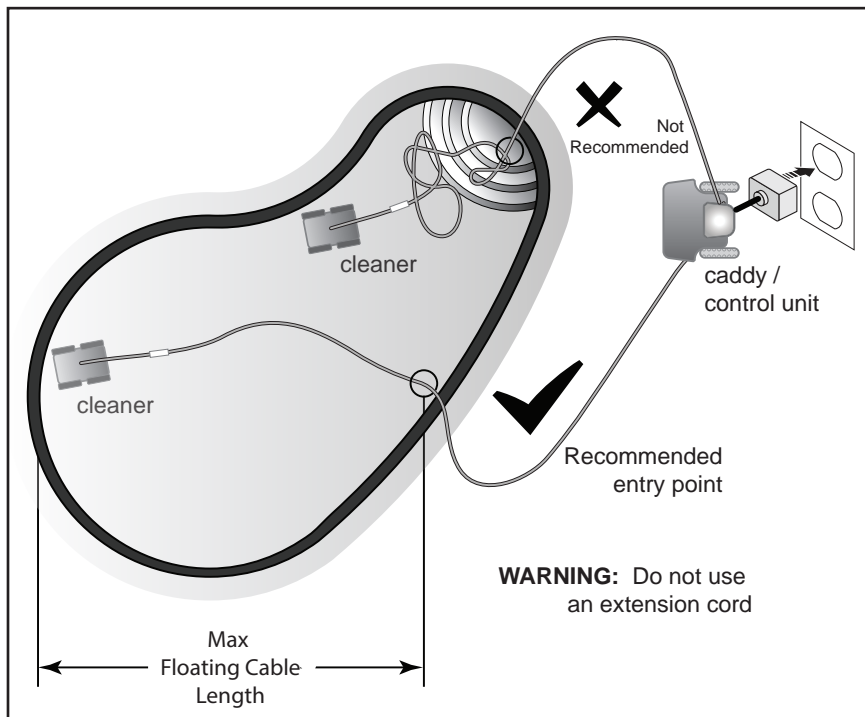

Figure 14. Pool Entry Point for Optimal Patterning
4. Place only enough floating cable in the water to reach the farthest end of your pool from the central point. Spread out the floating cable ensuring there are no kinks or coils in the cable (Figure 14).
NOTE: For optimal patterning and reduced tangling, the floating cable should enter the water near the middle of the pool length. Only place enough cable in the water to reach the farthest point in the pool (see Figure 14).